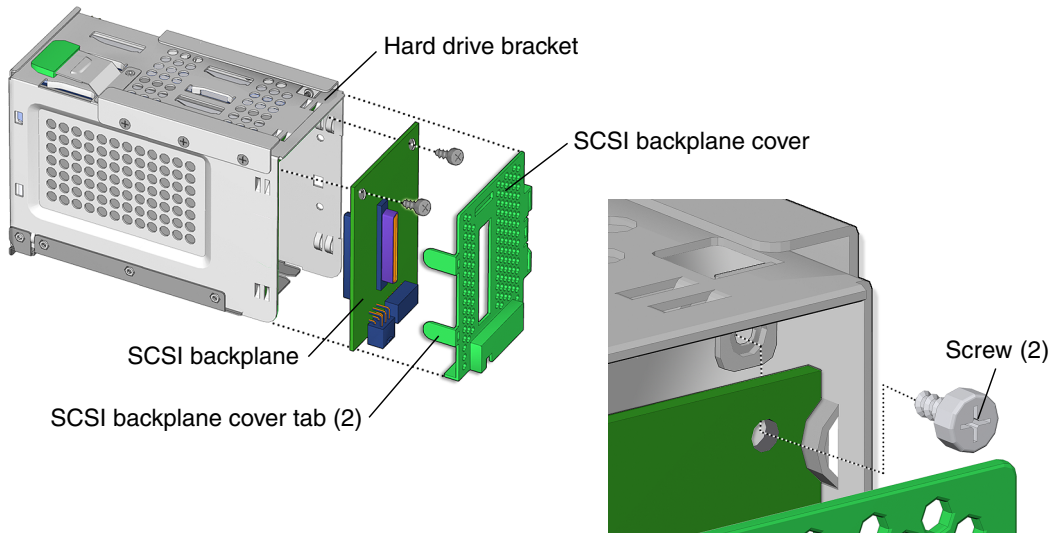

FIGURE 13-27 Removing the SCSI Backplane Cover
8. Position the hard drive bracket (FIGURE 13-27).
9. Remove the green plastic SCSI backplane cover from the hard drive bracket (FIGURE 13-27).
10. Unfasten the SCSI backplane from the hard drive bracket (FIGURE 13-27).